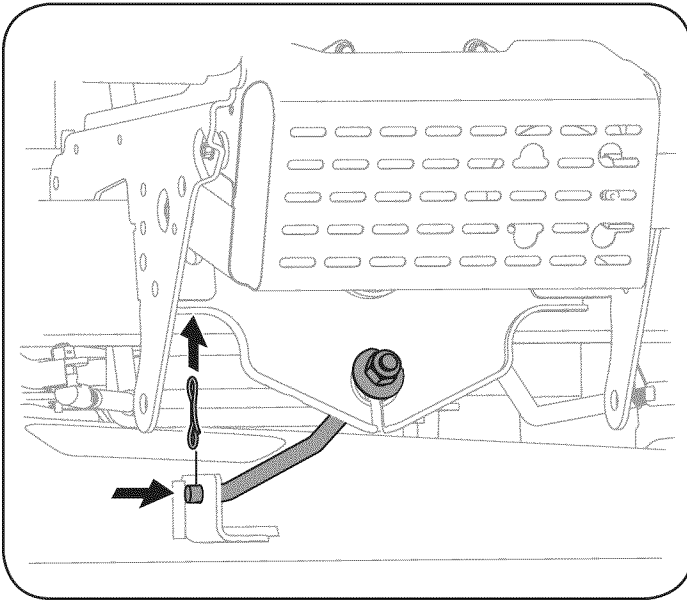

Figure 19
8. Remove the bow-tie cotter pin securing the deck stabilizer rod to the deck. Slide the deck lift rod from the mounting bracket on the deck as seen in Fig. 19.